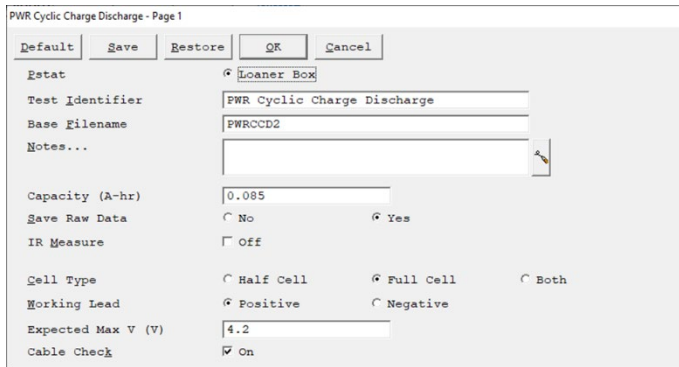

Figure 2- Page one of setup parameters for CCD
4. Go into the Framework software and navigate to “Experiment”- “Electrochemical Energy”- “Cyclic Charge Discharge”. Page one of the experimental setup screen will open. See figure 2.